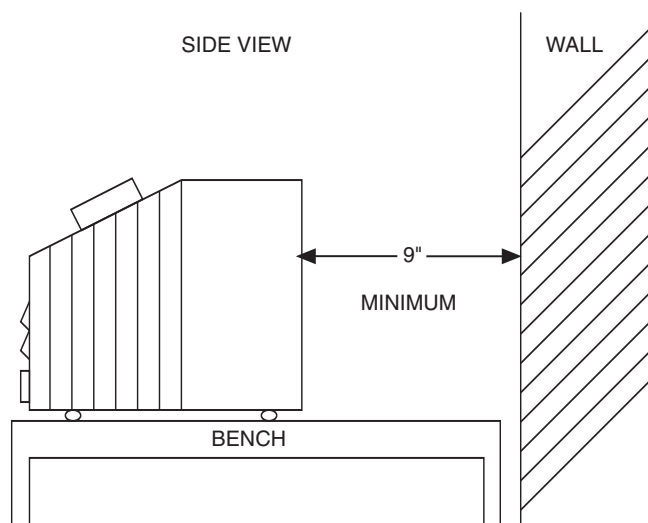

Figure 3-1. hot point Calibrator Location
- Leave at least 9" of space between the rear of the calibrator and nearby objects for air circulation. Keep the area around the instrument neat and clean. Position the calibrator as shown in Figure 3-1.